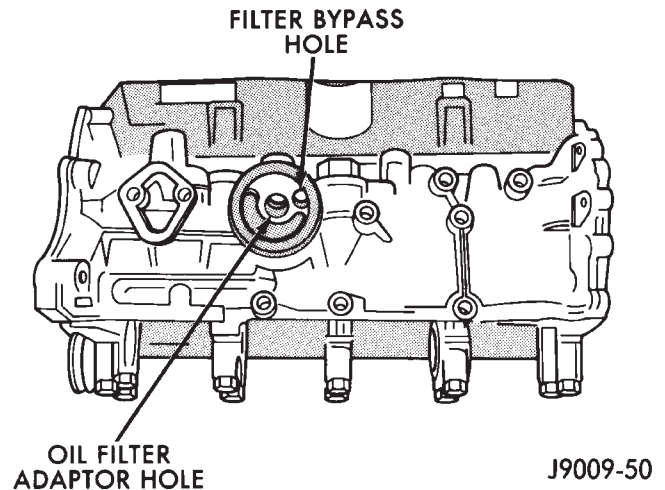

Fig. 69 Oil Filter Adaptor Hole
- The galley at the oil filter adaptor hole, the filter bypass hole (Fig. 69).